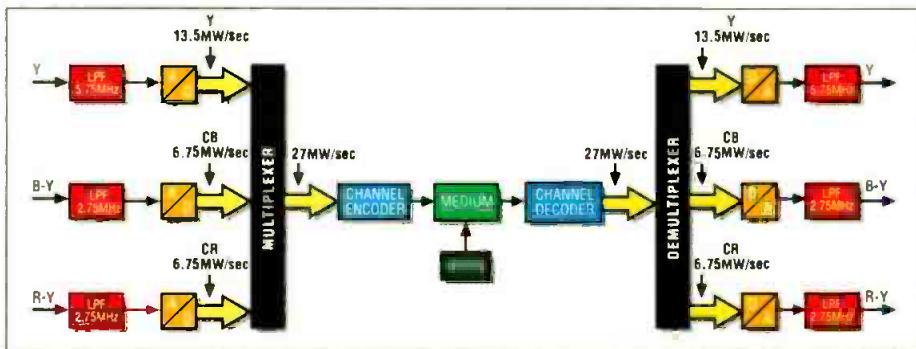
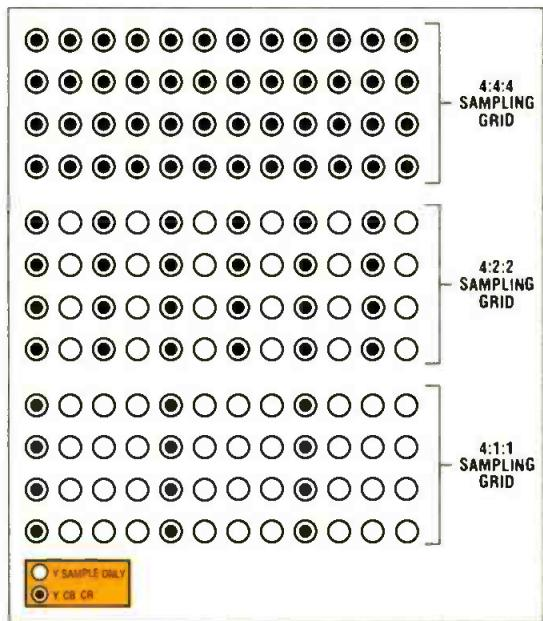
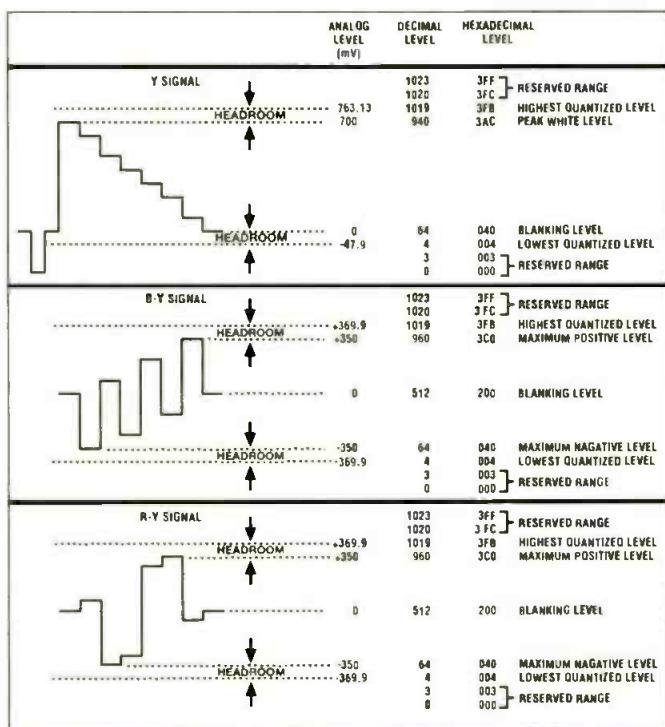

Figure 3. A simplified block diagram of a 4:2:2 component digital black box.
Figure 4. The sampling grids of the three component digital formats.
Figure 5. The quantizing range of the component video signals.
Figure 3 shows a simplified block diagram of a 4:2:2 component digital black box. The 4:2:2 sampled and quantized component signals are time-division multiplexed resulting in a bit-parallel data rate of 27M Words/sec. The bit-serial data rate of the 4:2:2 digital signal is 270Mb/s. Figure 4 shows the sampling grids of the three component digital formats. Figure 5 shows the quantizing range of the component video signals.
process of setting up an SVC using ATM is like laying a 3/4-inch pipe from one location to another. The pipe is capable of carrying a certain capacity from one place to another. To expand the analogy a little further, you can think of the SVC as a pipe inside another larger pipe, perhaps a SONET OC-12. (See Figure 3.) Although there may be other traffic flowing through the OC-12, the data flowing through the SVC "pipe within a pipe" is unaware of this other traffic. A switched virtual
**Figure 3.** ATM SVC is like a "pipe within a pipe." Traffic passing through the SVC pipe is unaware of other unaffiliated traffic passing through the larger OC-12 pipe.